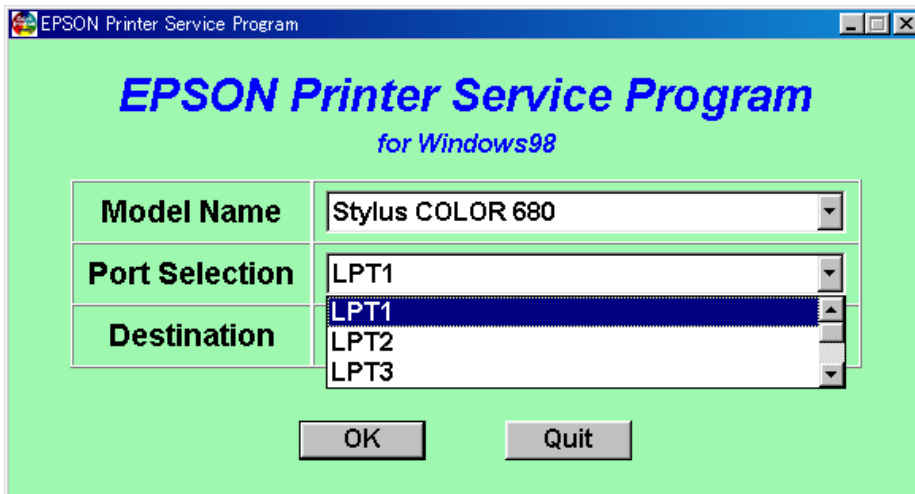

Figure 5-2. Model Name Selection
2. Select the Interface port number which you connect the printer to your PC as above Figure 5-2.